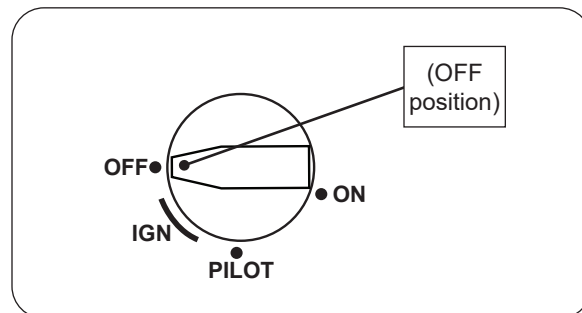

Fig. 30-2 Pilot shut down
2. Locate the valve on the side of the unit. Push in the ignition knob slightly and turn clockwise to **OFF** (see Fig. 30-2).
Push in the ignition knob slightly and turn clockwise to **OFF**. Do not force. See Fig. 30-2.